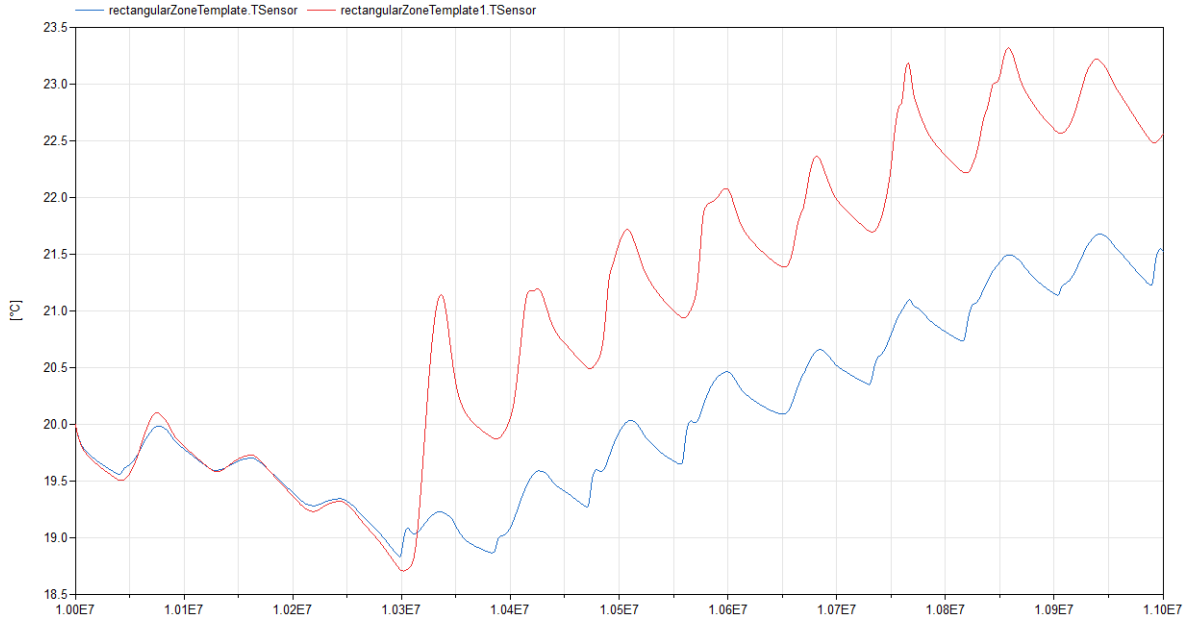

Figure 5: Two zone temperatures for step 5.
**Reference result** Figure 5 shows the zone temperatures of both zones. Note the large influence that the window placement has on the zone dynamics!